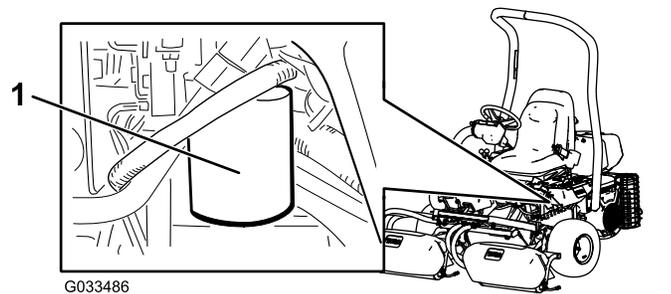

Figure 50
2. Remove the bolts that secure the cover plate of the lift cylinder that you are adjusting from the support brackets of the chassis (Figure 50).
1. Clean the area around the left filter mounting area (Figure 50). Place a drain pan under the filter and remove the filter.